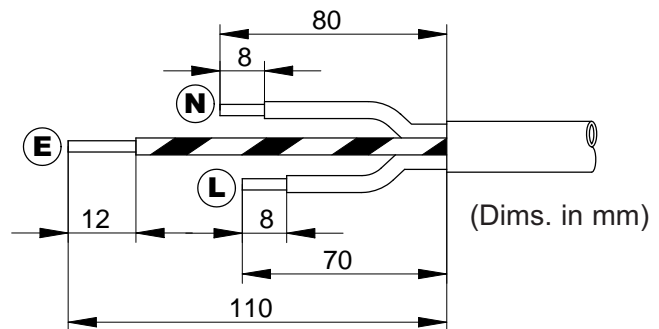

Fig. 22
2. Strip and prepare the cable sheath and insulators as shown in Fig. 22.